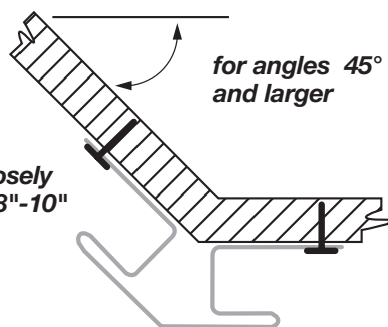

FIGURE 3
- Position all remaining nails in the center of nail slots a maximum of every 8" to 10" (figure 3). Leave 1/8" to 1/16" between the nail head and the cornerpost to allow the cornerpost to move during normal expansion and contraction.